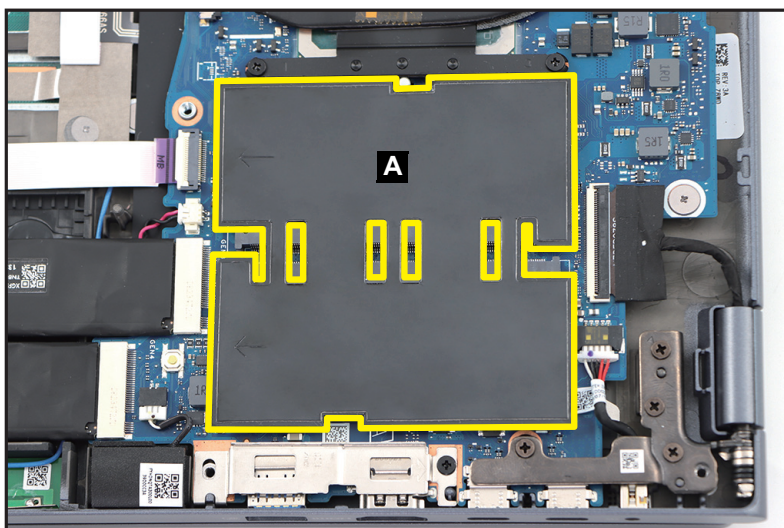

Figure 1-25. DIMM Module Removal
1. Detach the absorber with mylar (A) covering the DIMM modules (Figure 1-25).